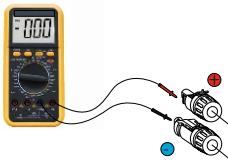
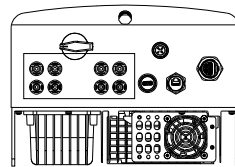

Figure 5.17 Multimeter measurement
Figure 5.18 Connect the DC connectors to the Inverter
5. Measure PV voltage of DC input with a multimeter, verify the DC input cable polarity (see figure 5.17), and ensure that each string's PV voltage is in the operation range of the inverter. Connect the DC connector with the inverter until hearing a slight clicking sound, that indicates the connection succeeded (see figure 5.18).